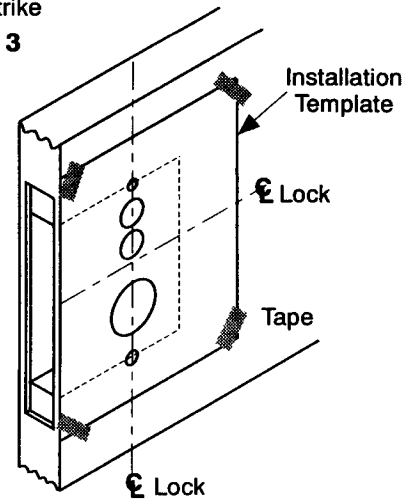

Figure 4
- Position installation template on outside of door so that horizontal line on door and vertical points line up with vertical centerline on door. Mark holes to be drilled, (To avoid shifting of template, it may be taped to the door during this step.) See Figure 4.